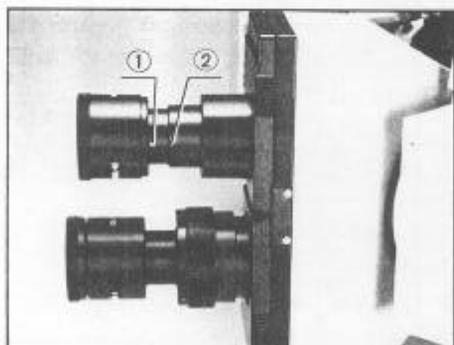

Fig. 15
⑫ Inserting the Eyepieces
Insert the eyepiece WHK10X-H (focusable with helicoid) into the right eyepiece sleeve of the binocular tube, aligning the locating pin ① to the locating groove ②. (Fig. 15)